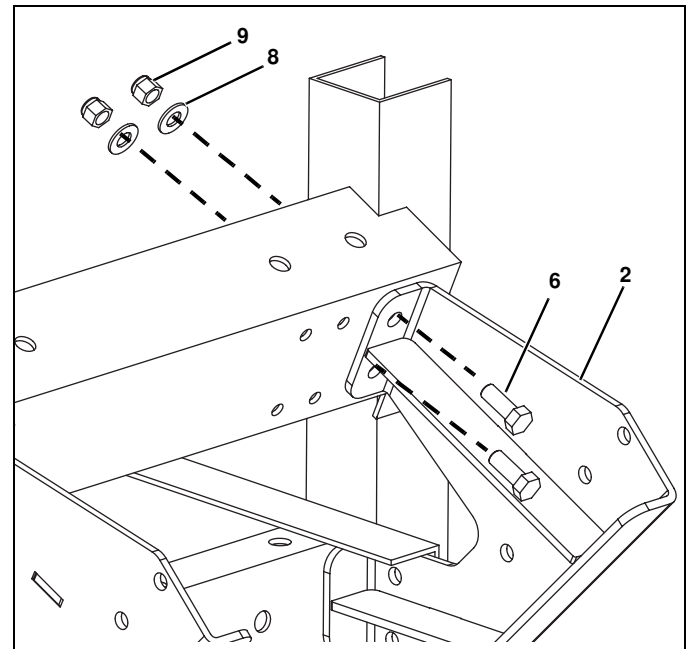

Figure 5
10. Loosely secure the Driver Side Bracing Weldment (#2) to the upper UTV frame rail with (2) 3/8"-16 x 1" Cap Screws (#6), (2) 3/8" Flat Washers (#8), and (2) 3/8"-16 Nylock Nuts (#9). Repeat for the Passenger Side Bracing Weldment (#3). (See Figure 5.)